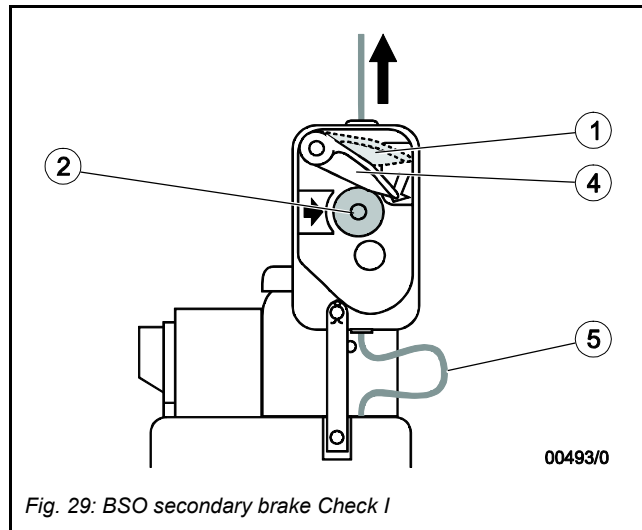

Fig. 29: BSO secondary brake Check I
See Fig. 29.
See Fig. 29 and 30.
- Reset BSO by pushing down control lever in open position (4) (see Fig.29).